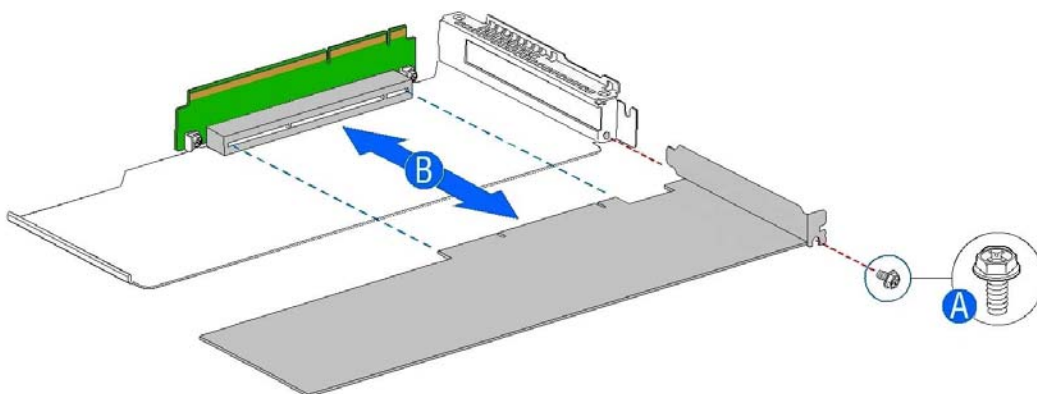

Figure G-3 Prosody X Card Removal and Installation
- Slide the Prosody X card into the PCI riser card assembly as shown in Figure G-3. Ensure that the Prosody X edge connector is correctly inserted into the riser card connector (“B”).